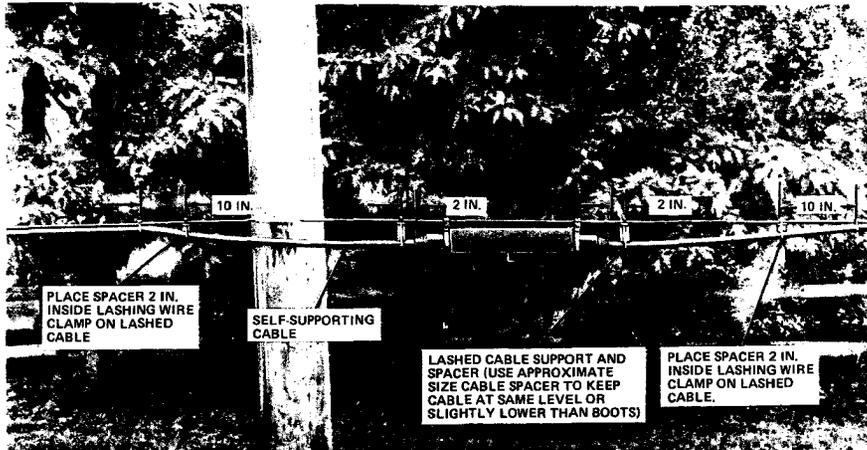

Fig. 31—Installing Cable Spacers
4.28 Close the cover and make sure the snap latch is secured. Place and secure the cable spacers as shown in Fig. 31.